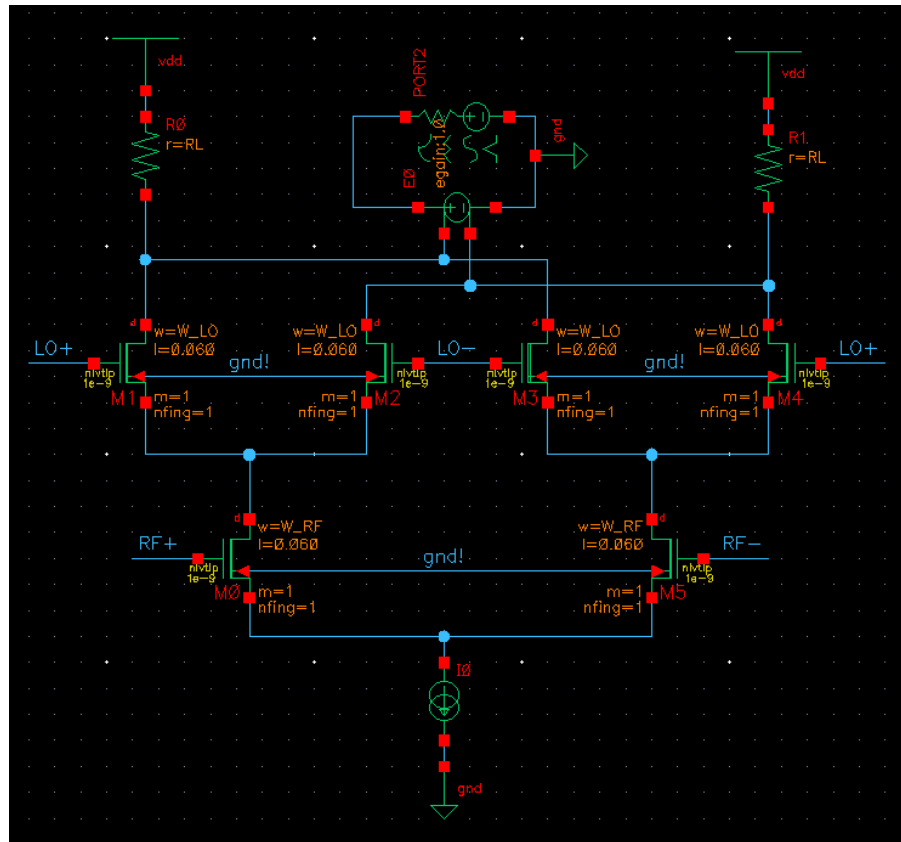

Fig. 1
- Draw the schematic according to Fig. 1. Use minimum length  $n/vt/p$  transistors. Set the widths to variables called 'W\_LO' and 'W\_RF'.